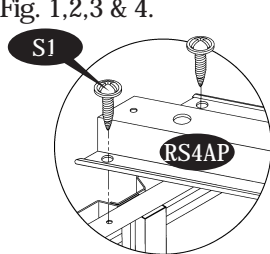

Fig.1
12. Place the Roof Structure (RS4AP) on the top of Roof support and top angle side. Secure with (S1) screws to the top angle and Roof support as shown in Fig. 1,2,3 & 4.